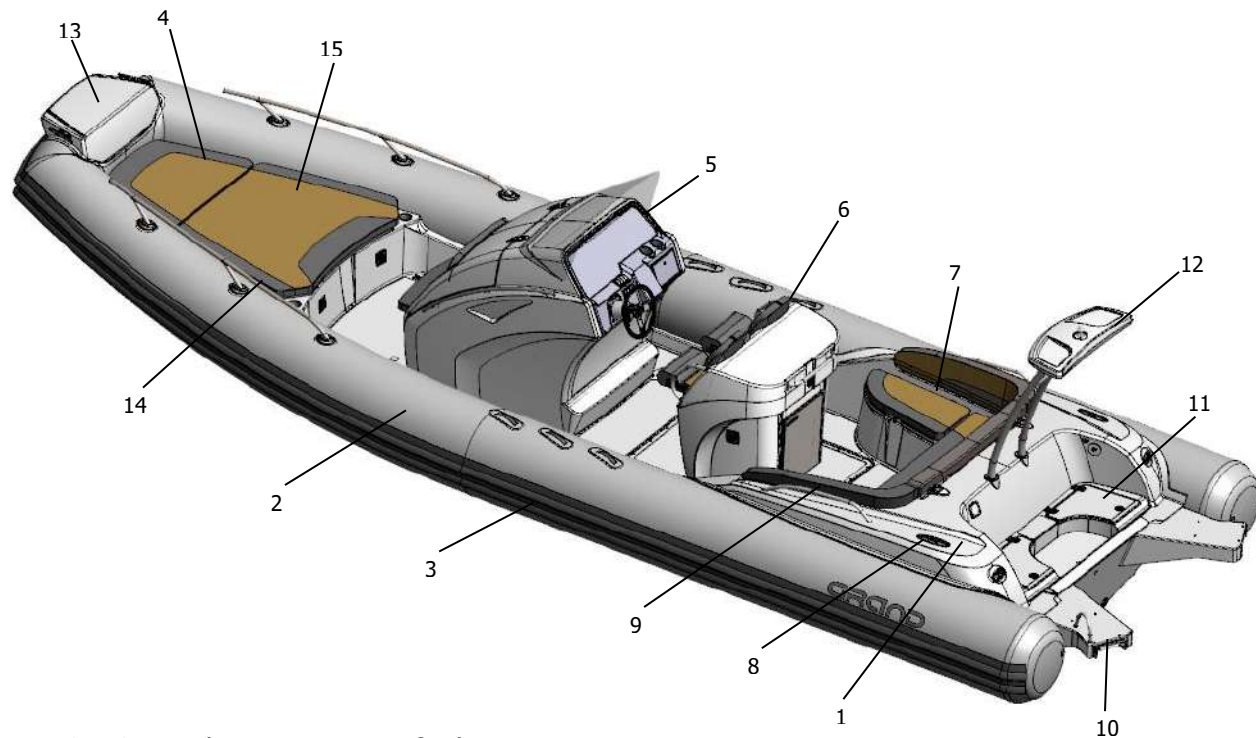

Fig. 61. General arrangement of a boat.
***General arrangement of a boat*** (see fig. 61 on the previous page):